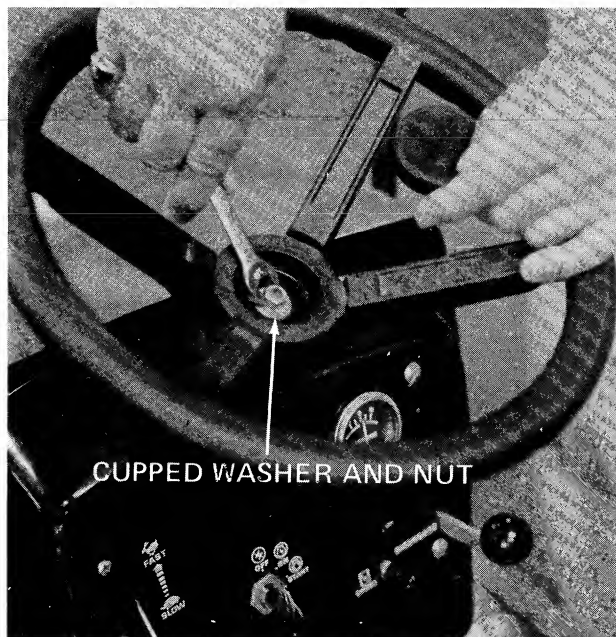

FIGURE 4
1. Place the steering wheel over the steering column extending through the dash. Line up the flats on the steering column with the flats in the steering wheel. See figure 4.